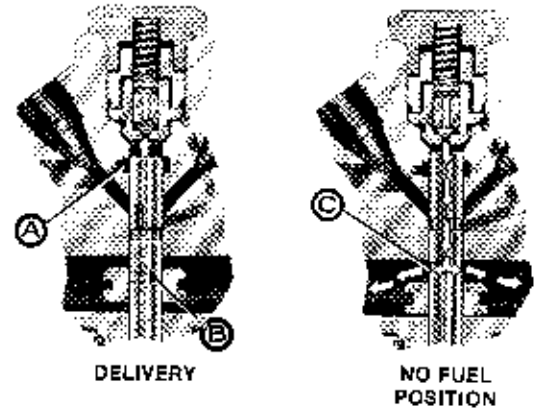

FIGURE 3-21. PORT CLOSING
As the plunger is cammed upward, the fuel fill port (A) is closed cutting off the fuel supply to the open center of the plunger. Figure 3-21. This is the critical port closing (PC) point of the injection pump that corresponds with the PC mark on the rim of the flywheel. As the metering sleeve moves upward on the plunger, it closes off the spill port (B). Now, as the plunger moves upward, the fuel trapped above its top end builds up pressure and lifts the delivery valve off its seat and the high pressure fuel is ported via the distributor-groove on the plunger upper end to one injector line. As the plunger reaches the upper end of its movement, the spill port (C) clears the sleeve allowing the high pressure fuel to spill into the sump.